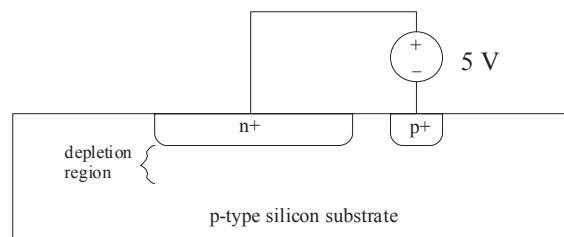

Figure 2.1
2. The pn-junction of Figure 2.1 was fabricated using a $100 \mu\text{m} \times 100 \mu\text{m}$ mask. The pn-junction is backward biased with a 5 V voltage source, as is shown in the figure. Due to the thermal generation, $3.2 \cdot 10^7$ new electron-hole pairs are generated each second in the depletion region of the diode.
3. Find the current in the circuit of Figure 2.1 by simulating it with AIM-Spice. Use the diode model file 'DBSBdiode.mod', which models a $100 \mu\text{m} \times 100 \mu\text{m}$ diode operating in the reverse biased region. NOTE: for simulating leakage currents in the pA -region, you must set the option GMIN to a very small value, e.g. $\text{GMIN} = 1\text{e-}39$.